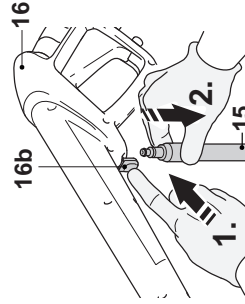

Fig. 37
10. Push the latch (16b) on the spray gun (16) to open the connecting port and disconnect the high pressure hose (15) by pulling it out (Fig. 37).